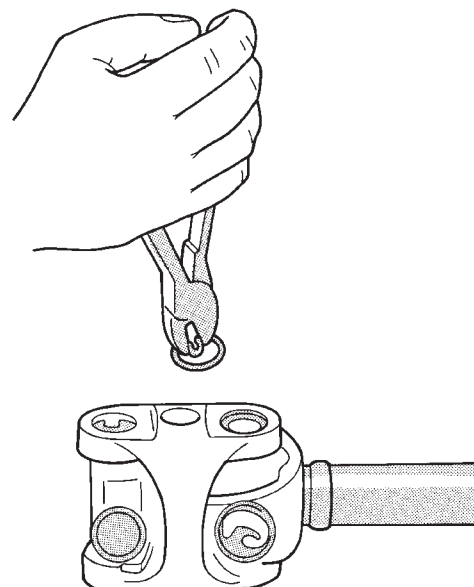

Fig. 19 Remove Snap Rings
- (1) Remove the propeller shaft.
- (2) Using a soft drift, tap the outside of the bearing cap assembly to loosen snap ring.
- (3) Remove all the bearing cap snap rings (Fig. 19).
- (4) Set the joint in an arbor press or vise with a socket whose inside diameter is large enough to receive the bearing cap positioned beneath the link yoke.
- (5) Place a socket with an outside diameter smaller than the upper bearing cap on the upper bearing cap and partially press one bearing cap from